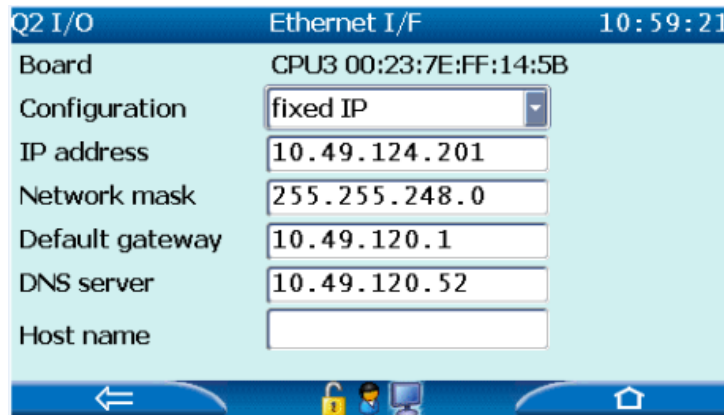

Figure 7.59: Display I/O with input option
5.	When you finished all changes, reboot the device to apply the changes. Use the on-screen action OK&Reboot . The modified data will be used after the restart. See figure. <p>The screenshot in step 5 shows the same 'Ethernet I/F' configuration screen as in Figure 7.59, but with the IP address field '10.49.124.255' highlighted in blue. The 'Ok&Reboot' button is now visible at the bottom right of the screen. The time is '11:34:17'.</p>